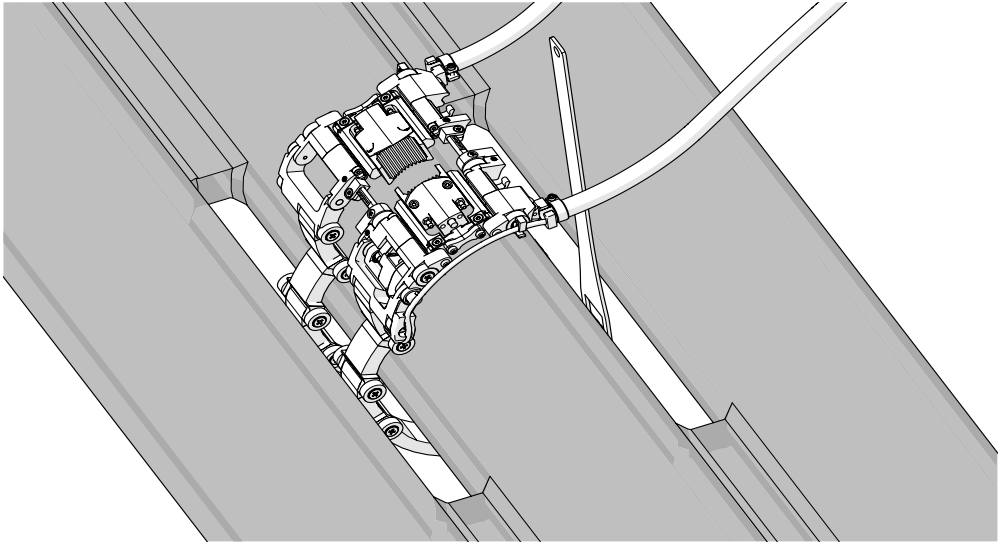
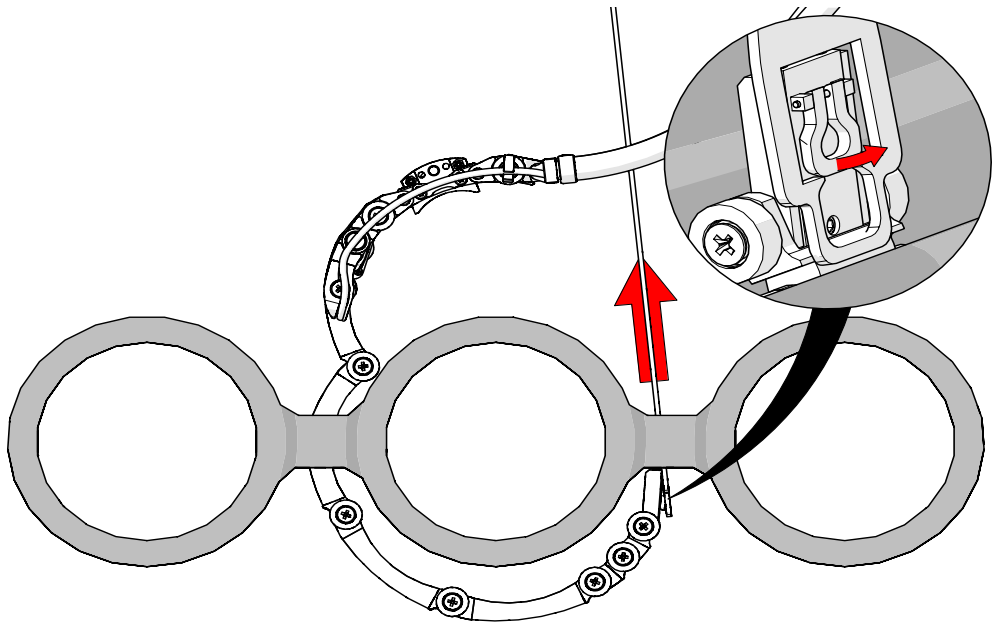

Fig. 92 - Use chain retrieval tool to access latch
Fig. 93 - Use chain retrieval tool to access latch
4. The chain retrieval tool is used to pull the latch through a tight space. The chain retrieval tool is designed to flip open the latch's tab, allowing the chain retrieval tool to hook the latch tab (*Fig. 92*) and (*Fig. 93*). The chain retrieval tool can also be used if available space to retrieve the latch is too small and the tab can not be opened.